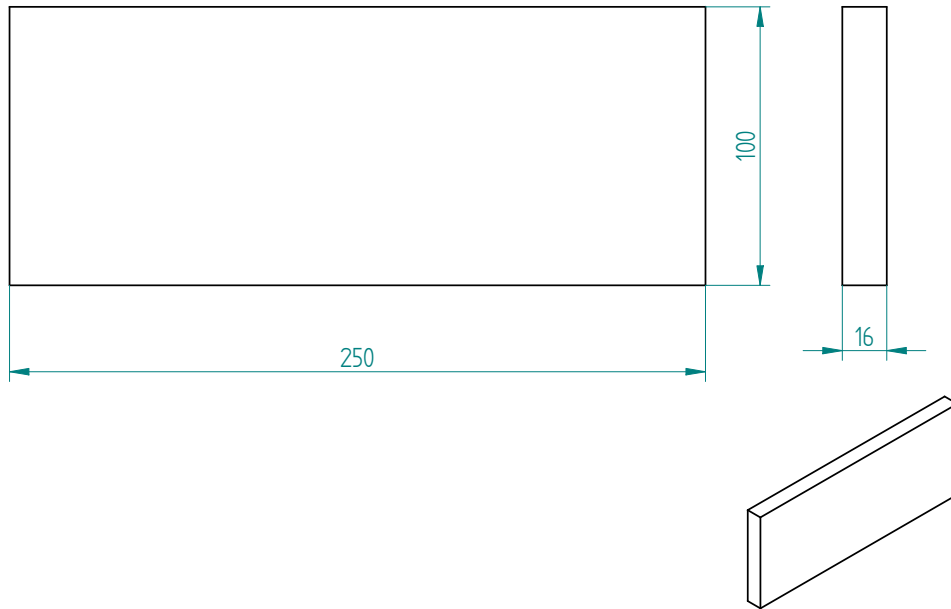

Figure 3.4: Shaped part : **face-1-outsourcing** for **perpendicularator** tool
1. order the part in a joinery see figure 3.4, page 84 for dimensions.